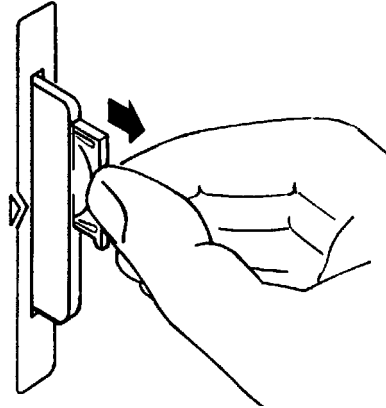

Figure 22 **Replacing the Memory Card's Battery**
5. Hold the memory card in the slot with one hand and pull the battery holder out with your other hand. (See figure 22 .)